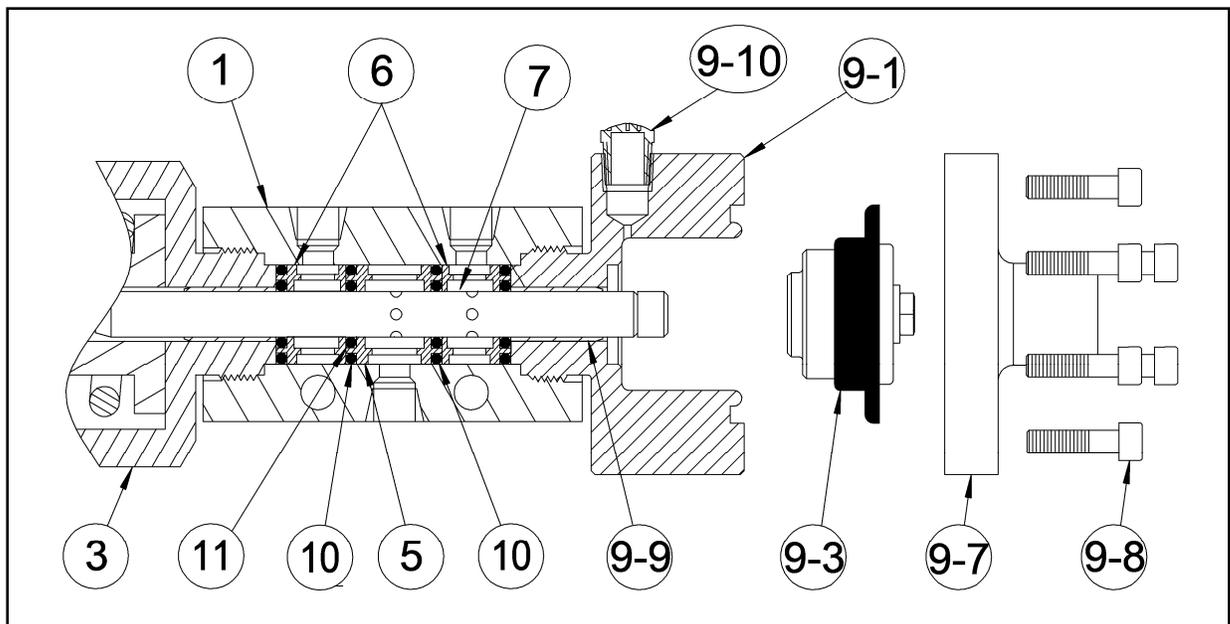

Figure 8: Completing Assembly
12. Disassemble the diaphragm cylinder by removing the 10-32 x 3/4" socket head cap screws (items 9-8) retaining the end cap (item 9-7) and remove the diaphragm assembly (item 9-3) from the cylinder (item 9-1). Discard the old diaphragm assembly (item 9-3). (See Figure 8)
15. Lubricate the tip of the stem (item 7), note taper, and carefully insert taper end first, pushing it through bearing (item 9-9) toward the spring end (item 3). (See Figure 8)